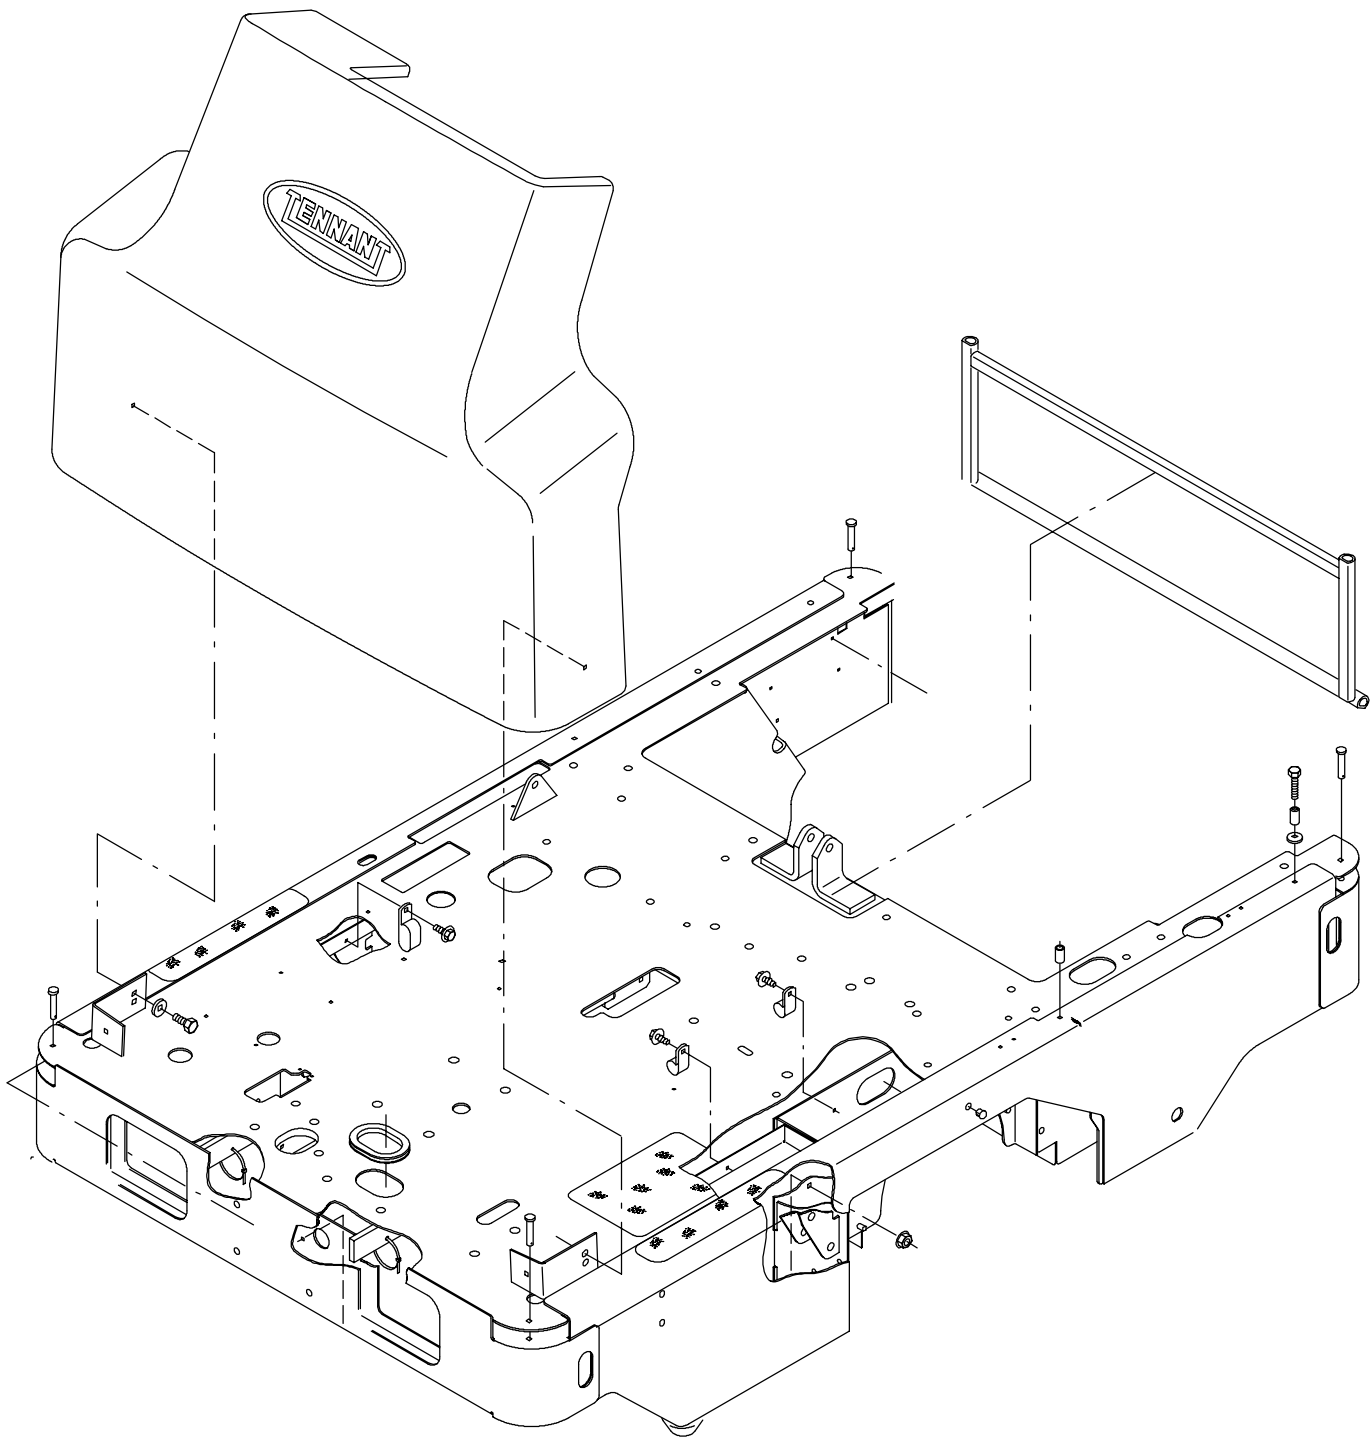
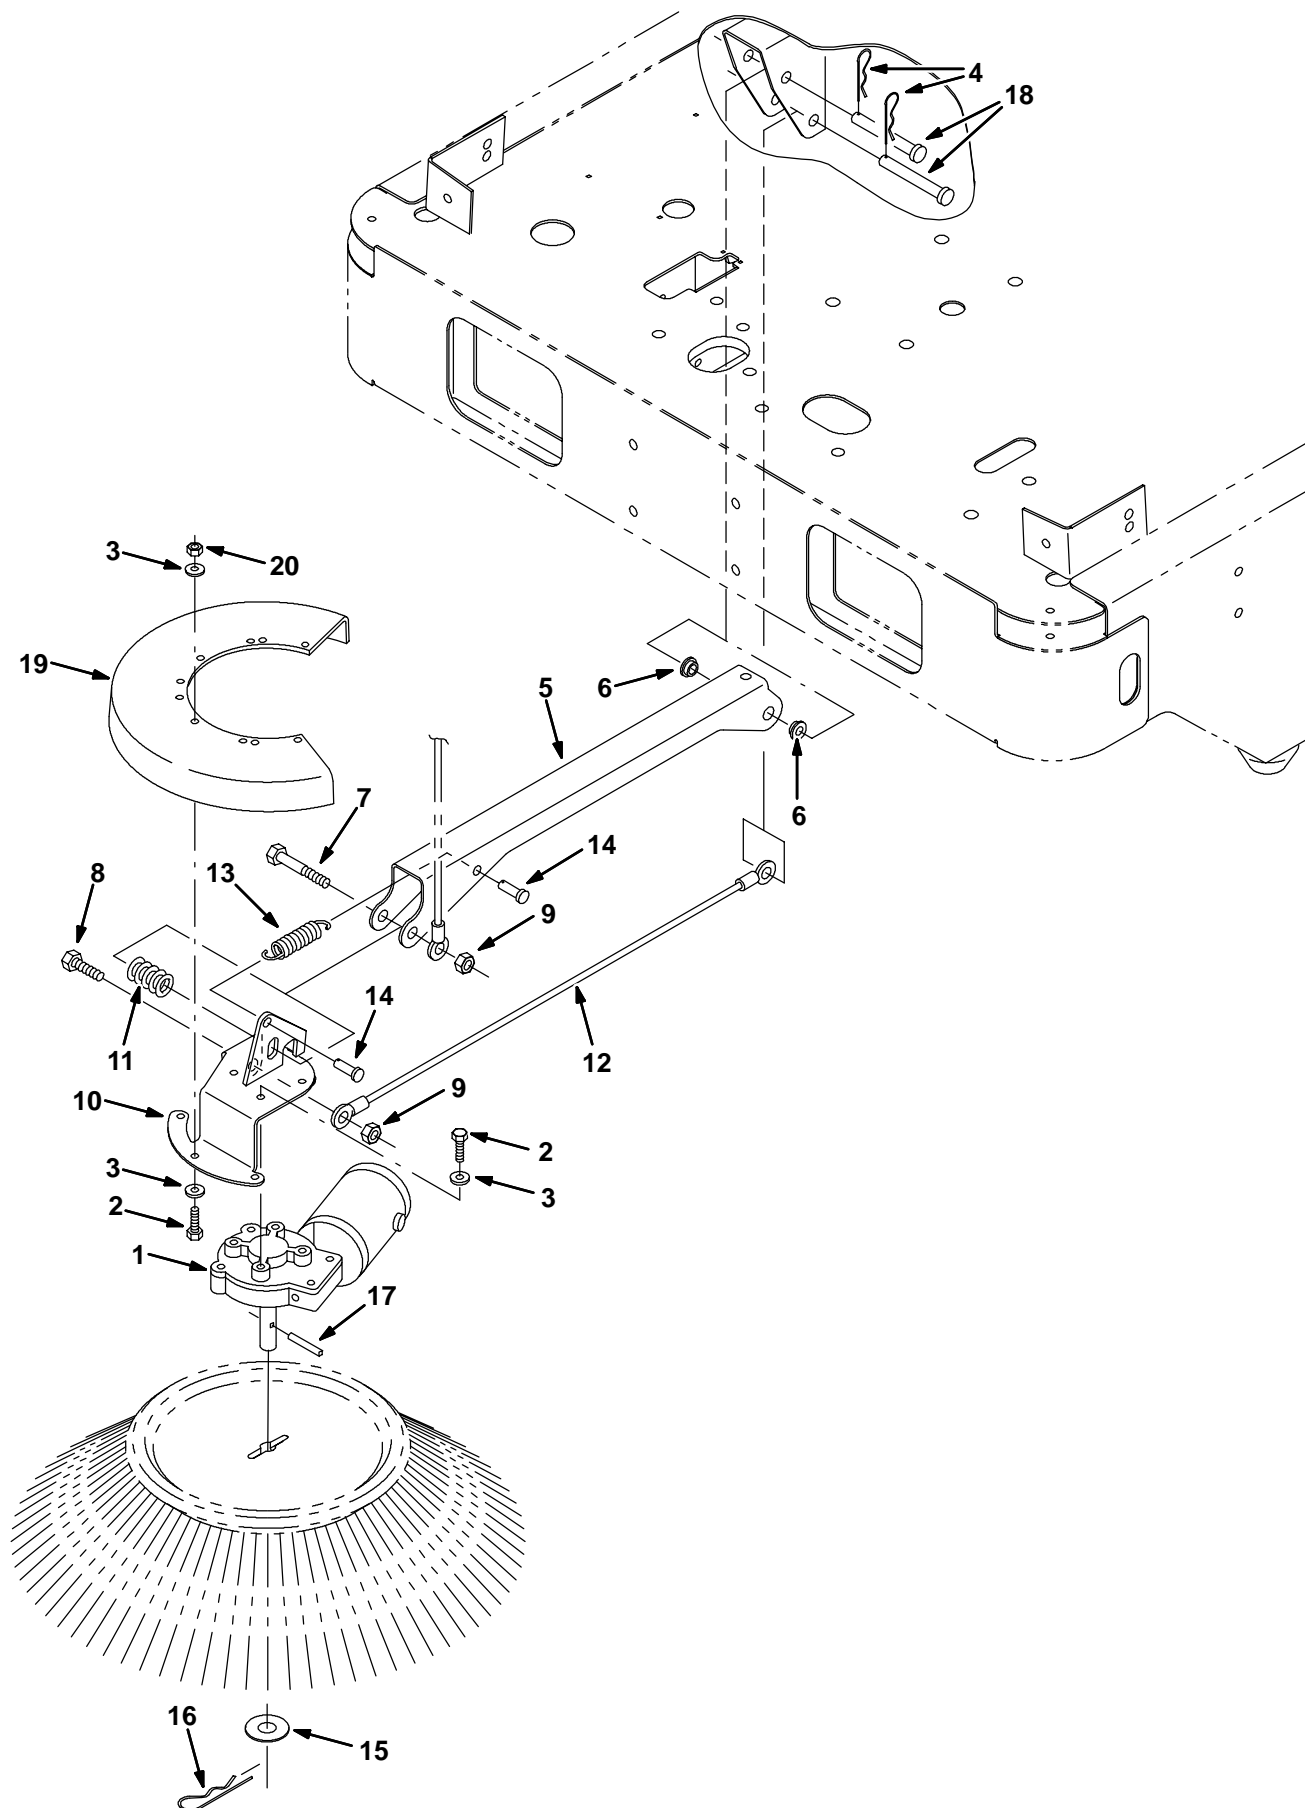

FIG. 1 - FRONT SHROUD REMOVAL
FIG. 2 - RIGHT HAND SIDE BRUSH MOTOR GROUP
(Refer to FIG. 1, 2 and 3)
1. Mount the electric motor (1) to the side brush bracket (10) with four hex screws (2) and washers (3). (Refer to FIG. 1)
2. Mount the right hand side brush guard (19) over the side brush bracket (10) with five hex screws (2), washers (3) and lock nuts (20). (Refer to FIG. 1)
3. Press the two flange bearings (6), into the rear end of the side brush mounting channel (5). (Refer to FIG. 1)
4. Connect the front end of the side brush mounting channel (5) and the right hand lift cable (21) to the bracket and motor sub-assembly with the hex screw (7), die spring (11) and lock nut (9). (Refer to FIG. 1 and 3)
NOTE: Check that the lift cable (21) is mounted on the left (nut) side of the mounting channel (5) and the die spring (11) is on the right side of the bracket (10) when mounted in the channel (5) (Refer to FIG. 1)
5. Connect the side brush cable (12) to the back side of the side brush bracket (10) with hex screw (8) and lock nut (9). Tighten the hex screw (8) and lock nut (9) only hand tight, the side brush cable (12) must be able to move freely. (Refer to FIG. 1)
6. Place one clevis pin (14) in the side brush channel (5) and the second in the top of the side brush bracket (10). Connect the two clevis pins (14) with the extension spring (13). (Refer to FIG. 1)
7. Install the right hand side brush assembly in the machine. Mount the side brush channel (5) to the frame with one clevis pin (20) and cotter pin (4) and mount the side brush cable (12) to the frame with the other clevis pin (20) and cotter pin (4). (Refer to FIG. 1)
8. Secure the side brush wiring harness back along the side brush cable (12) with wire ties.
9. On IC machines only: Secure the main harness with the cable clamp (31) and hex screw (32). (Refer to FIG. 2)
8. Check that the pin (17) is secure in the brush drive shaft. (Refer to FIG. 2)
9. Mount the side brush sweeping head to the motor with a flat washer (15) and cotter pin (16). (Refer to FIG. 2)